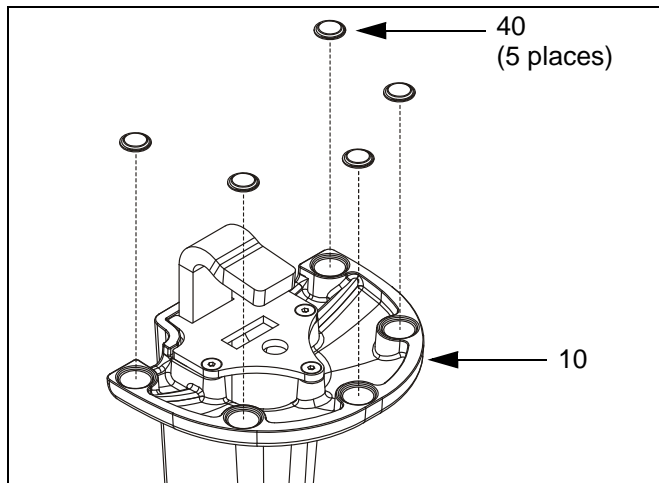

Figure 4: Install Bumpers
- Peel backing from adhesive bumpers (40) and attach to bottom of mount (10) (See Figure 4).